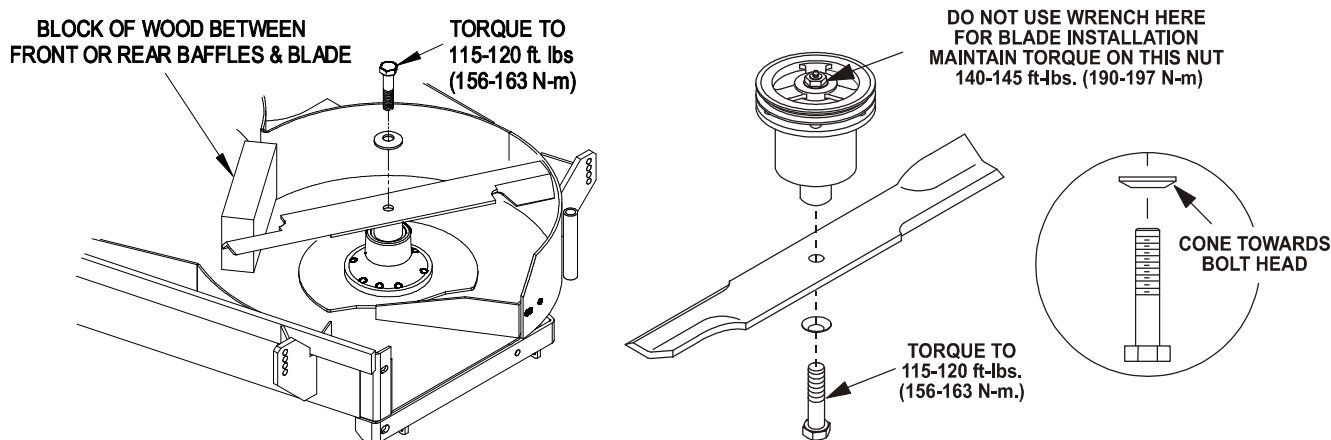

FIGURE 8
- d) Re-install the blades (if they were removed) by placing a block of wood between the front or rear baffles and the blade then torquing the blade bolts to 115-120 ft-lbs. (156-13 N-m). Be sure the spring disc washer cone is installed toward the bolt head (See Figure 8).